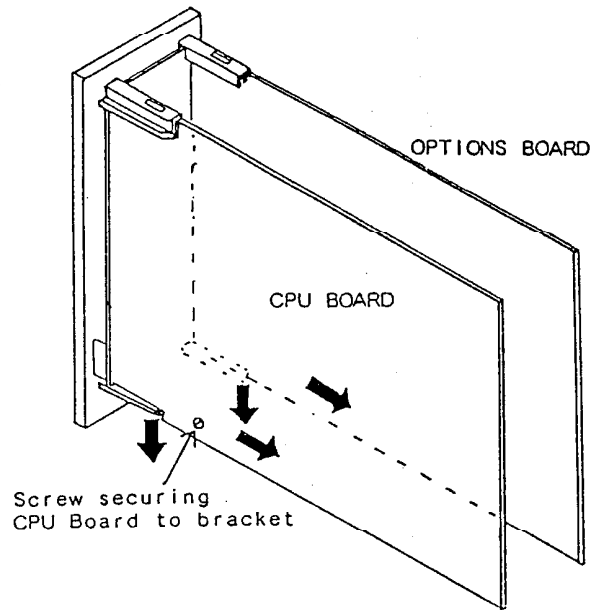

FIGURE 5-1 DETACHING THE PCBs FROM THE FRONT PANEL
2. Grasp the guides (projecting rearwards from the bottom of the front panel - see Figure 5-1) and pull them downwards until the bottom of the PCBs are released and can be withdrawn backwards; grasp the guides at the top of the front panel and disengage the top edges of the PCBs. The two PCBs may now be removed from the front panel assembly.